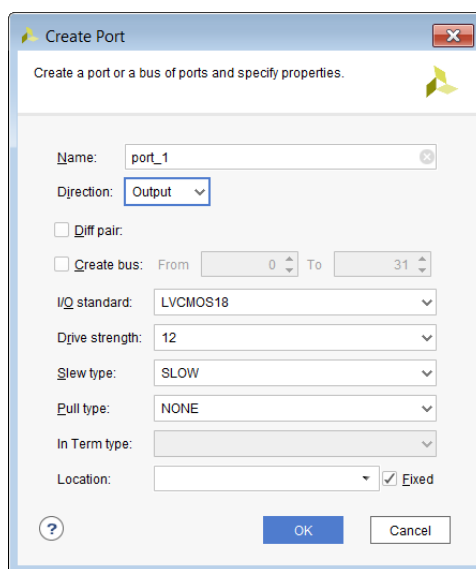

Figure 3-10: Create I/O Ports Dialog Box
2. In the Create I/O Ports dialog box (Figure 3-10), edit the following options, and click **OK**: